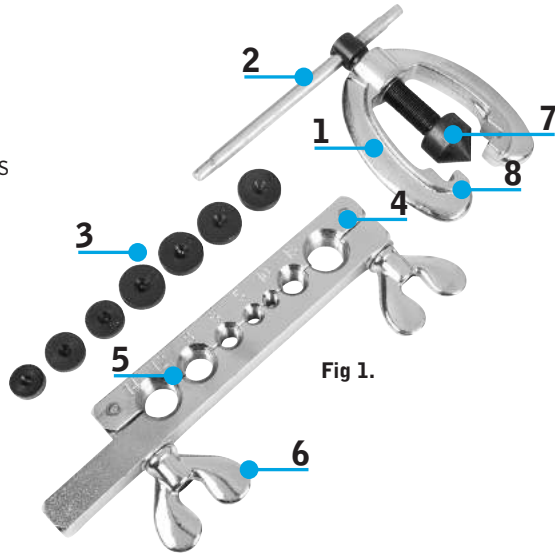

Fig 1.
2. Check your pipe diameter and place the pipe into the corresponding Pipe-Securing Bore. Ensure the end of the pipe protrudes the thickness of the upturned die above the Flaring Block (Figure 1)..